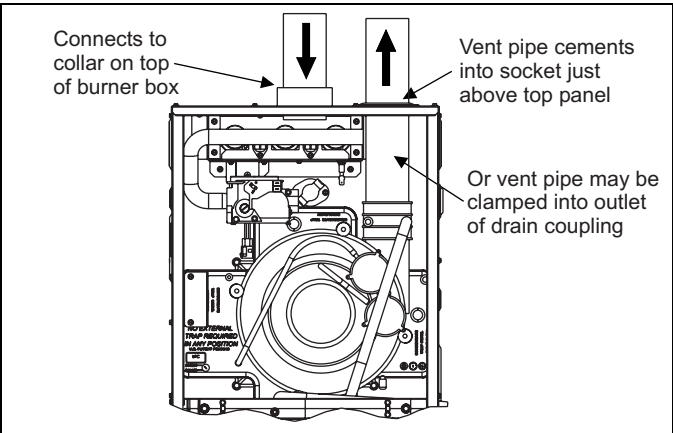

FIGURE 35: Direct Vent Air Intake Connection and Vent Connection
- 1. **OUTDOOR COMBUSTION AIR:** This is a direct vent configuration where the combustion air is supplied through a PVC or ABS pipe that is connected to the PVC coupling attached to the furnace and is terminated in the same atmospheric zone as the vent. This type of installation is approved on all models. Refer to Figure 35.
This installation requires combustion air to be brought in from outdoors. This requires a properly sized pipe (Shown in Figure 35) that will bring air in from the outdoors to the furnace combustion air intake collar on the burner box. The second pipe (Shown in Figure 35) is the furnace vent pipe.